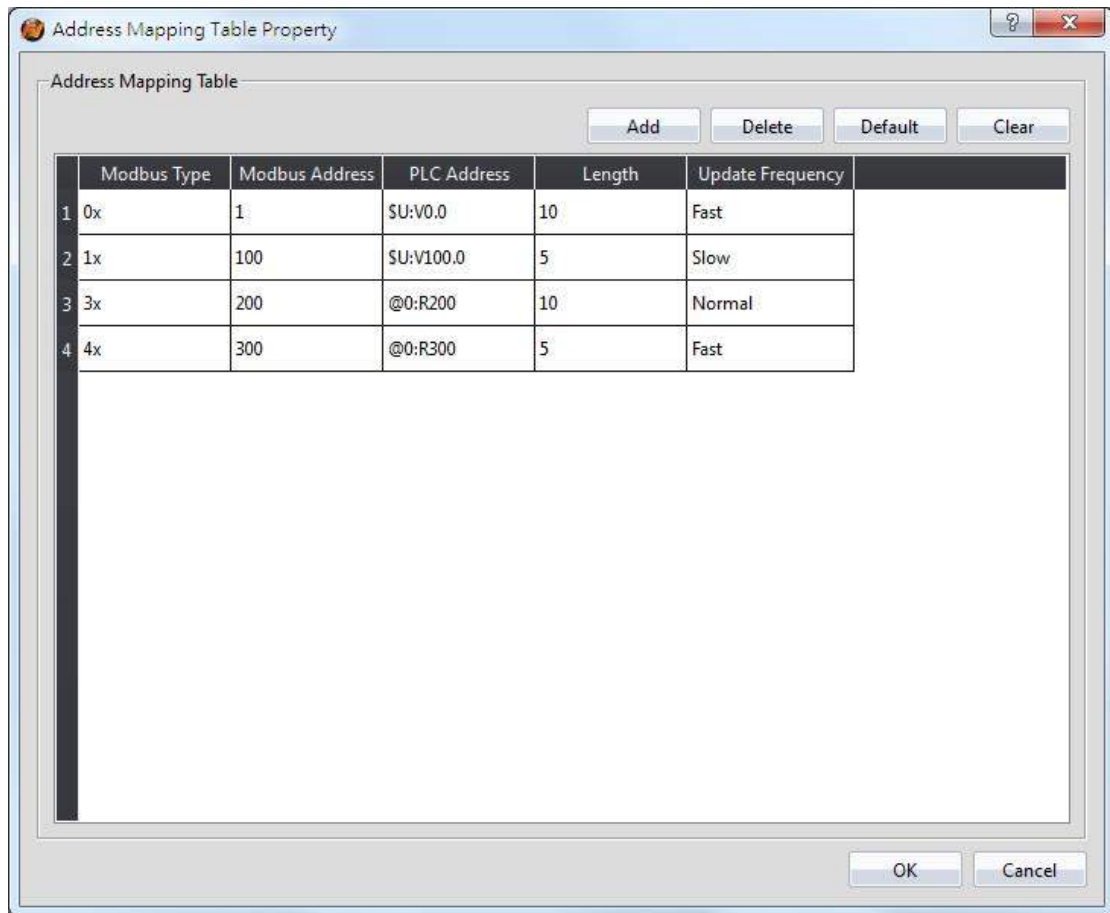

Figure 435 【Address Mapping Table】 Settings Screen
Step 1: New Modbus Server (TCP) driver, set as shown in Figure 435.